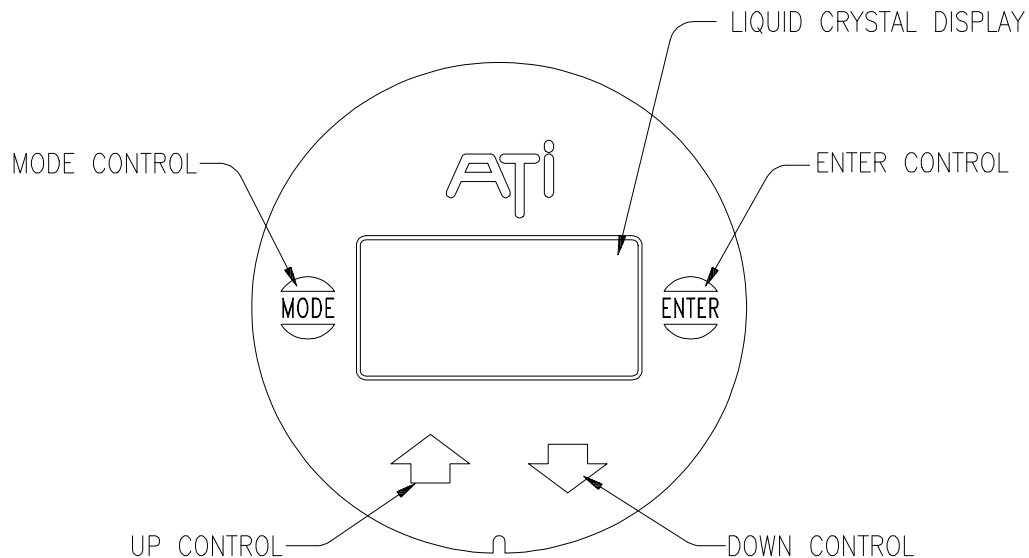

Figure 8 - UniSens Front Panel
The display in the A12 transmitter provides the operator with a real time concentration display and a variety of prompts for selecting transmitter operating modes. Figure 8 shows the display, including all of the special indicators contained in it. Below that Figure is a description of each of the indicators.
- Step 3 Screw a calibration adapter onto the sensing module as shown in Figure 8. Connect your span gas source to the inlet fitting on the cal. adapter.